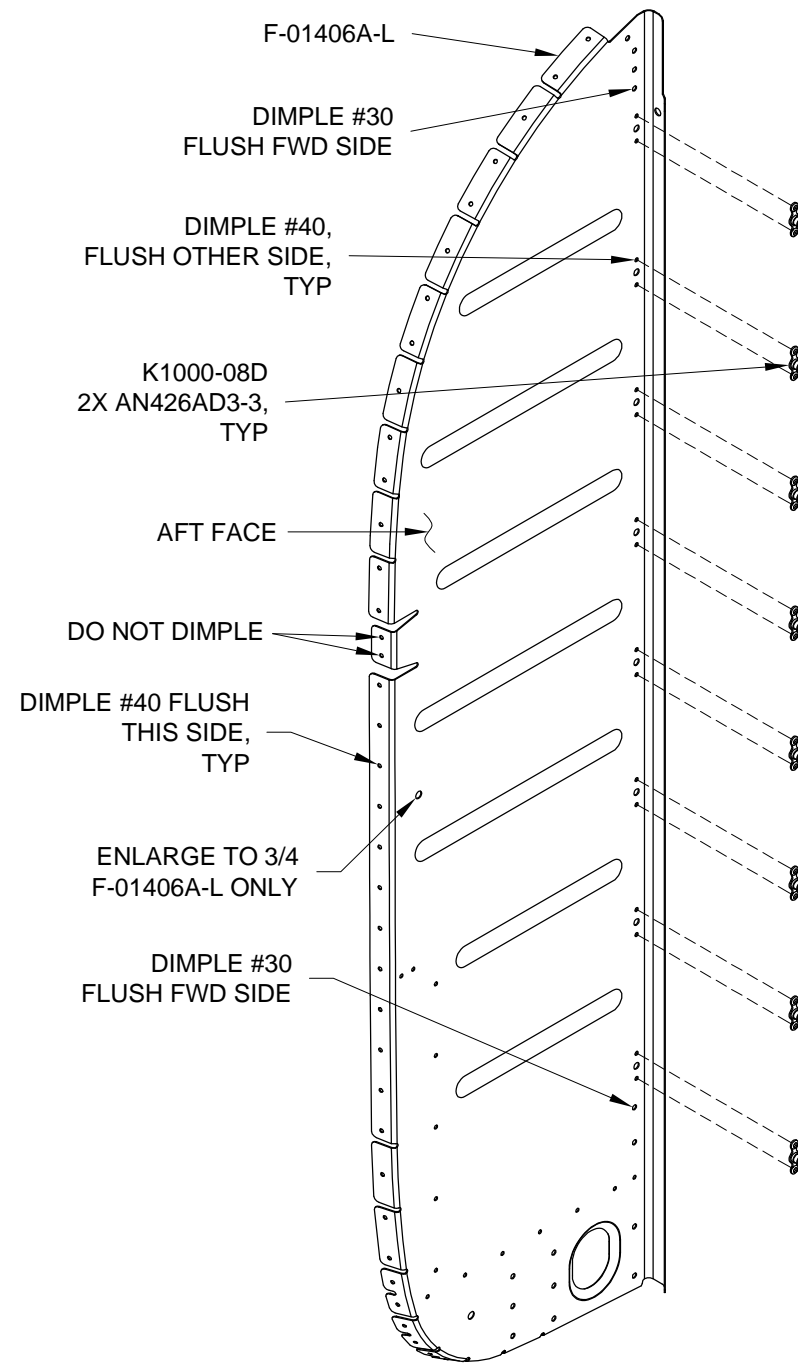

FIGURE 1: INSTALL NUTPLATES
Step 5: Use a step drill to enlarge the .191 [4.9 mm] hole to 3/4 in the F-01406A-L Bulkhead as shown in Figure 1. Do not repeat this step for the F-01406A-R Bulkhead.
Step 7: Cleco the F-01406A-L and F-01406C Bulkheads into the Aft Fuselage Assembly to determine if the fluting is adequate. See Page 30-04, Figure 1 and Page 30-05, Figure 1.